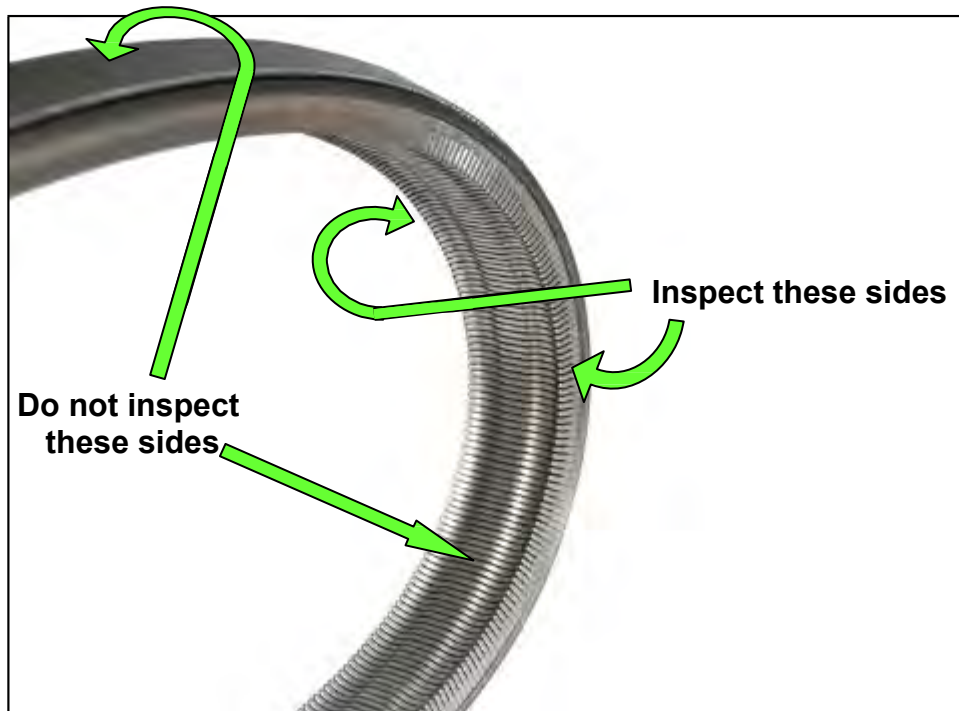

Figure 2C: New belt
3. Using the steps on pages 14-19 inspect the entirety of the two sides of the belt that come in contact with the pulleys (see Figure 2C).